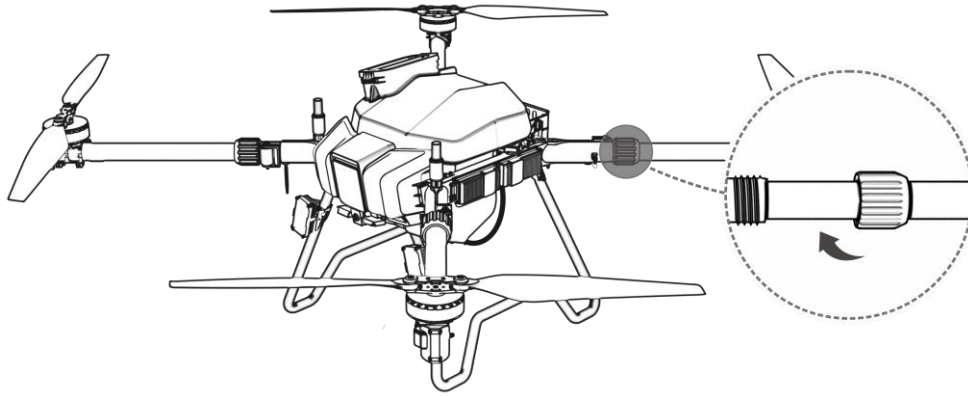

Figure 1-33 Arm Clamp
Step 3: Unfold the arms. See Figure 1-33.